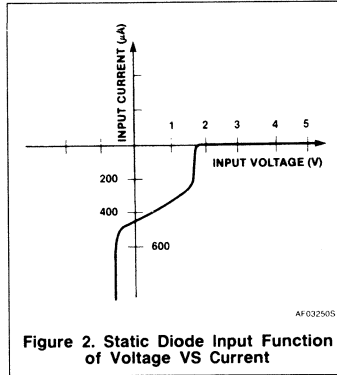
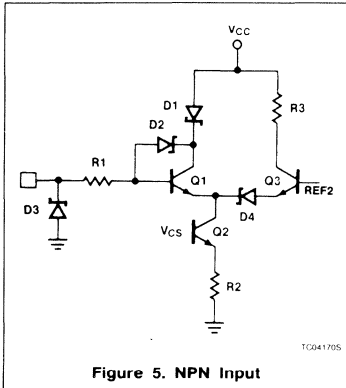
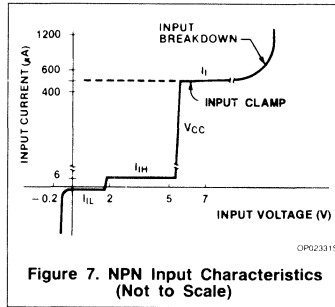

Figure 2. Static Diode Input Function of Voltage VS Current
Figure 5. NPN Input
Figure 7. NPN Input Characteristics (Not to Scale)
The static diode input function of voltage versus current is shown in Figure 2. If the pin voltage is negative, most of the relatively high negative current flows through the clamp Schottky D2. At 0V the current flows from VCC through R1 and D1 to the pin. Switching from a logic Low level to a logic High level occurs when the input pin voltage rises high enough to force the current from the D1 path to the Q3 – Q2 – Q1 path. This happens when the base voltage of transistor Q3 is at three base-emitter drops (3VBE), and the pin is at 2VBE, which is the standard FAST threshold switching voltage. At this voltage the input current is very small, just the leakage currents of diodes D1, D3, and clamp diode D2. The current remains at this small, positive value until breakdown voltage is reached.
The current of Figure 2 is scaled for the case where the pin is required to pull down a single 10K $\Omega$  resistor R1 (20 $\mu$ A maximum in the High state and 0.6mA maximum in the Low state), which is defined as a standard FAST Unit Load (UL). For some parts, pin current can exceed a UL, especially in the logic Low state. This will happen if the pin must sink the current from more than one R1 resistor, or if the value of R1 is less than 10K $\Omega$ , which will be the case if the capacitance at the base of the transistor Q3 is too large for the required switching speed. In this event, the actual number of ULs is listed for each input in the specification sheet for the part. Note: UL, as defined here, is less than the normally defined Schottky TTL Unit Load. The correlation is one Schottky Unit Load = 1.67 ULs. This is an important point to remember for fan-in and fan-out calculations in systems that mix FAST with other TTL families.
The NPN input is shown with two variations in Figures 5 and 6. It has limited use in standard TTL circuits, and is used in selected FAST devices, especially where its superior high-impedance input characteristics are useful. A typical plot of static input current versus input voltage is shown in Figure 7. There are some significant differences between this function and that of the diffusion diode input shown in Figure 2, the most important being the much lower input current in the region from 0V to
age, as shown by the  $I_I$  plateau in Figure 7.  $I_I$  provides a clamping action to ground for pin voltages in excess of  $V_{CC}$ , which is usually desirable to reduce overshoot.
For the case where  $V_{CC}$  is grounded or floating, the input current is nearly zero for positive voltages between zero and approximately 7V. The conducting path through R1 - D2 - Q1 is available, but the current source Q2 will be shut off because, without  $V_{CC}$  drive, the Q2 base reference  $V_{CS}$  will be at 0V. This is the specified standard setup for incoming inspection. For the incoming inspection testing case where  $V_{CC}$  is connected to a 5V source, the response is shown in Figure 7. The current remains on the Q2-limited plateau until the pin voltage is high enough to cause non-destructive collector-emitter reach-through of Q2. At this point, input current increases as the pin voltage rises, and R1 functions to limit this current and prevent damage to Q2.
The current-mode logic interface is shown in Figure 5. The output voltage is the drop across R3, and is referenced to  $V_{CC}$  (or some on-chip regulated voltage lower than  $V_{CC}$ ) as is required for current-mode logic. For this case, voltage reference REF2 is normally fixed at  $2V_{BE} + 1$  Schottky drop to provide a pin threshold voltage of  $2V_{BE}$ . In fact, REF2 can be tailored to set the switching threshold voltage to any desirable level; it can be set to something other than an integral number of